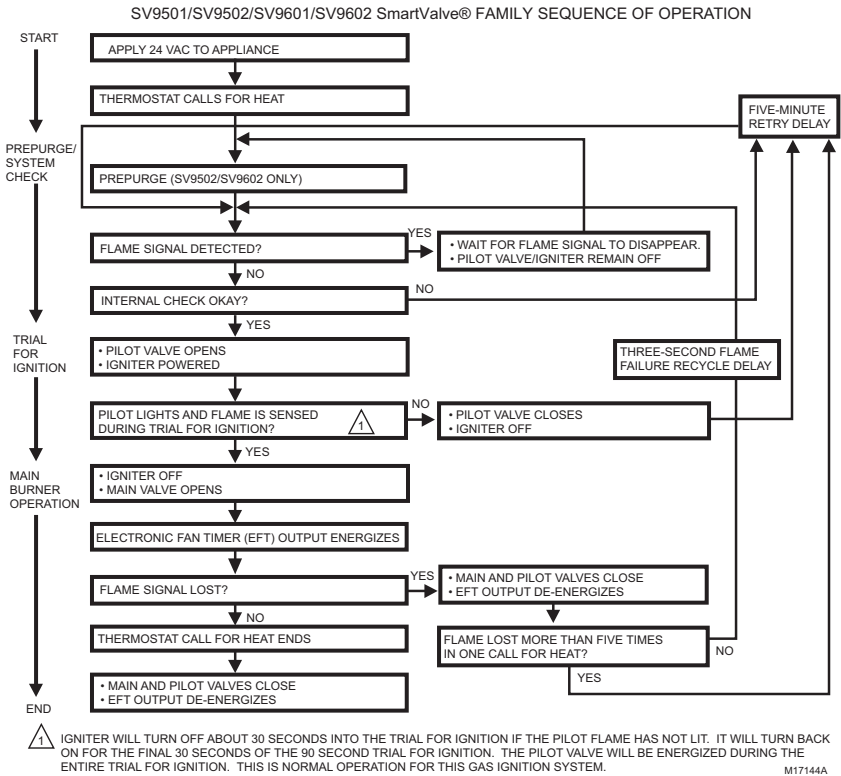

Fig. 14. SV9501/SV9502/SV9601/SV9602 SmartValve™ Sequence of Operation.
2. Follow the sequence of operation shown in Fig. 14.
9. Follow the Operating Sequence and Troubleshooting flow chart in Fig. 14 and 16 for the replacement SV9501/SV9502/SV9601/SV9602 SmartValve™.